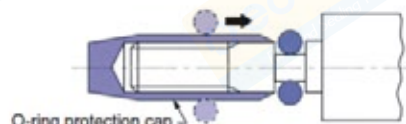

Fig. 1.6.1 O-ring installation jig
- 5) If an O-ring passes along a threaded surface or sharp edges during installation, take care not to damage the O-ring by using the following protection cap on the thread area as shown in Fig. 1.6.1.